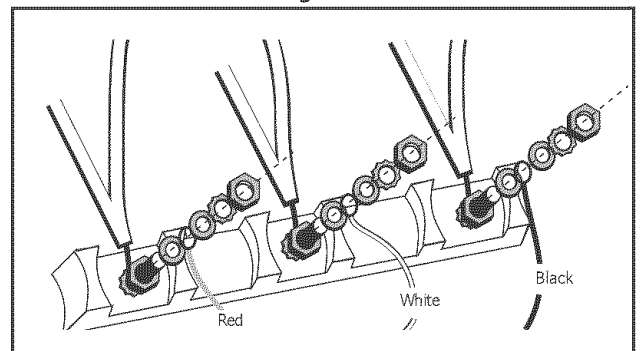

Figure 10
6. Attach red wire, round washer, star washer and nut IN THIS ORDER to left post (See Figure 10).
7. Attach white wire, round washer, star washer and nut IN THIS ORDER to center post (See Figure 10).
8. Attach black wire, round washer, star washer and nut IN THIS ORDER to right post (See Figure 10).